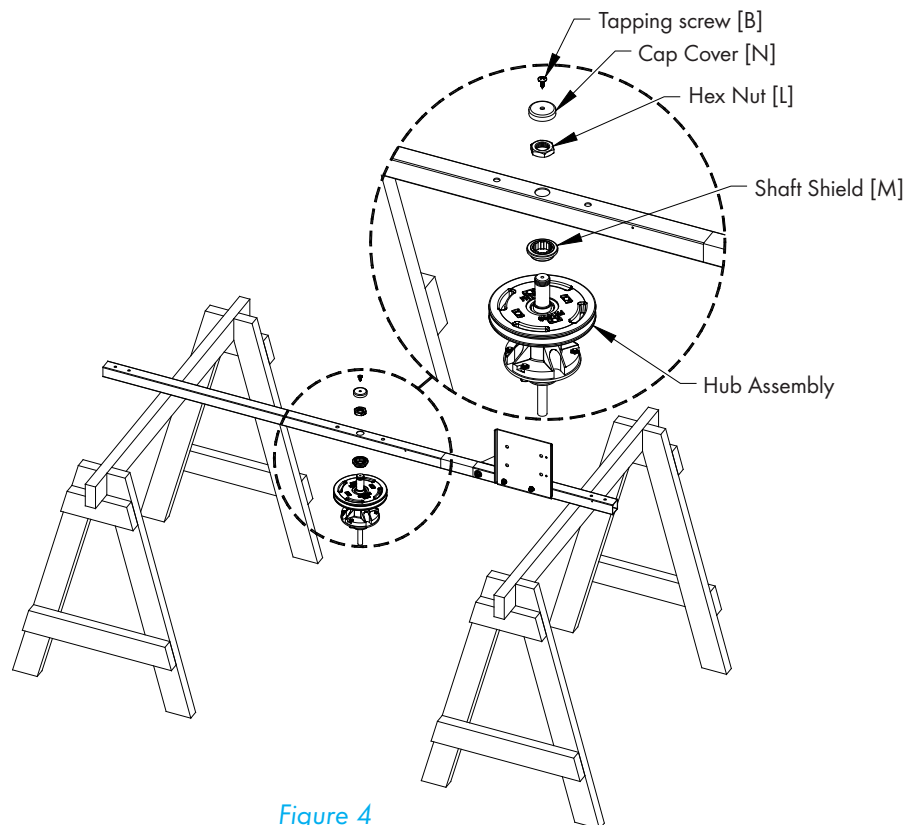

Figure 4
Rotate Tube Strut on saw horses so Motor Bracket is pointing up. Slide Shaft Shield [M] over hub shaft as shown in Figure 4. Attach Sheave/Hub Assembly to Tube Strut using (1) Hex Nut [L] and tighten to 52 ft-lbs [70 N-m] torque. See Figure 4. Place Plastic Cover Cap [N] over Hex Nut and fasten in place with (1) Tapping Screw [B]. See Figure 4. Set aside the Strut Assembly for use in a later step.